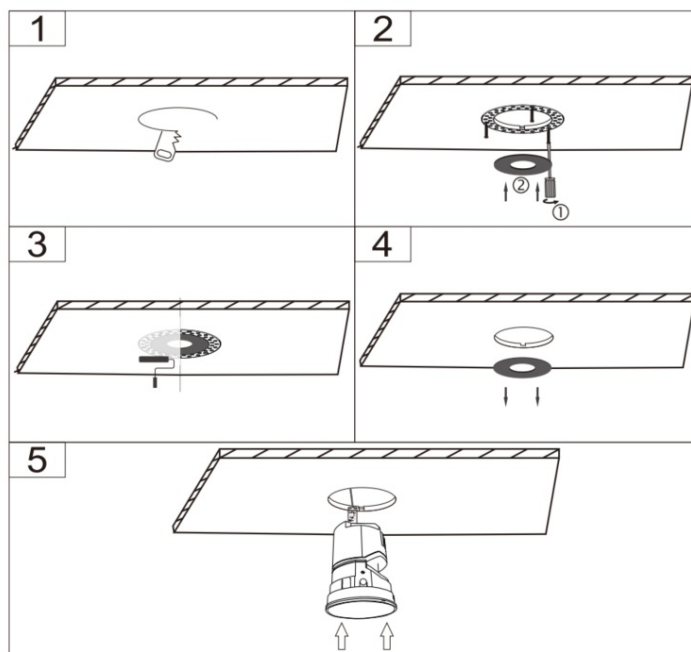

Figure 5
Step 6: Install the lamp body into the opened hole (see Figure 5 below);